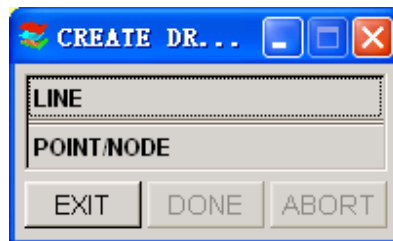

Figure 9.4.2 The Create Drawbead dialog window.
4. Select OK to close the window. The CREATE DRAW BEAD dialog window, as shown in Figure 9.4.2, is displayed. It allows the user to create drawbead using line, point or node. If drawbead line data is available, select LINE, and pick the drawbead line data shown in the display area. Click OK to confirm the line selection and to generate the drawbead.